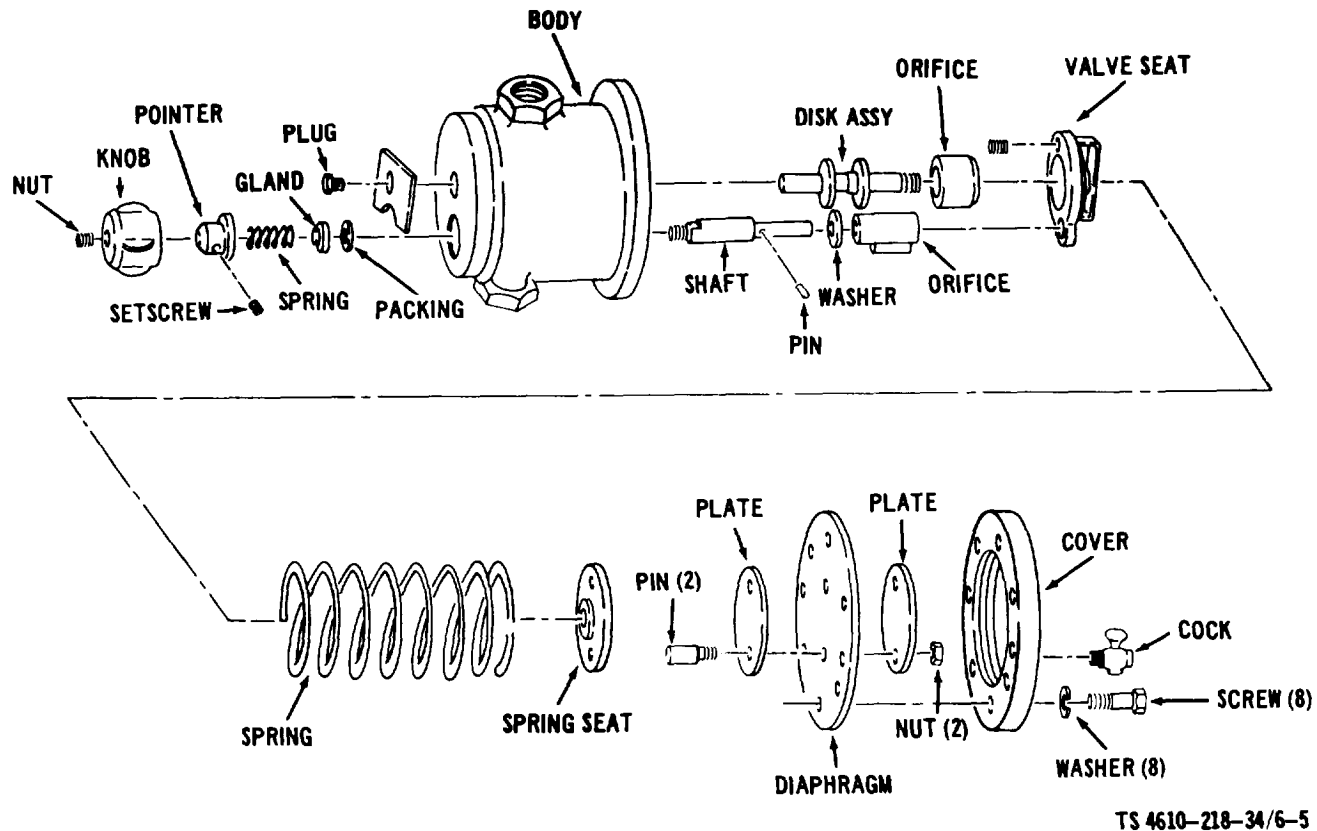

Figure 6-5. Adjustable Flow Controller, Disassembly and Reassembly
c. Disassembly. Refer to figure 6-5 for the disassembly of the valve.
(1) Clean all metal parts in dry cleaning solvent P-D-680 and dry thoroughly.
(2) Clean the diaphragm in alcohol or a non mineral base cleaning solvent.
(3) Inspect the diaphragm for cracks and signs of wear.
(4) Inspect the threaded parts for damaged threads.
(5) Inspect the shaft and stem for misalignment.
(6) Repair or replace all damaged or defective parts.
e. Reassembly. Reassemble the flow controller valve as illustrated in figure 6-5.